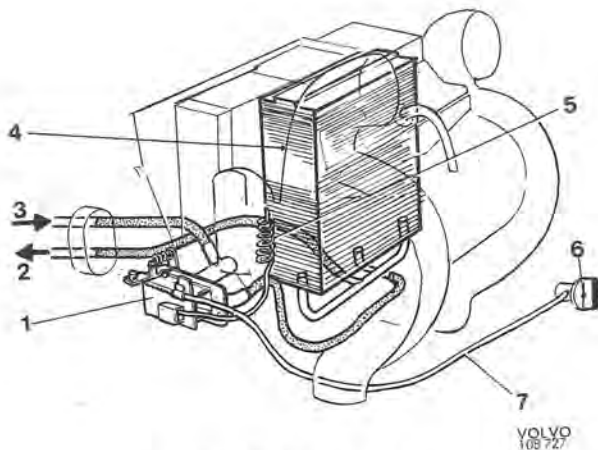

Fig. 8-39. Heating system
The heater system in the combined unit consists of a cell assembly and a heater control valve. The cell assembly (4, Fig. 8-39) is located in the central unit, while the heater control valve (1) is placed underneath.